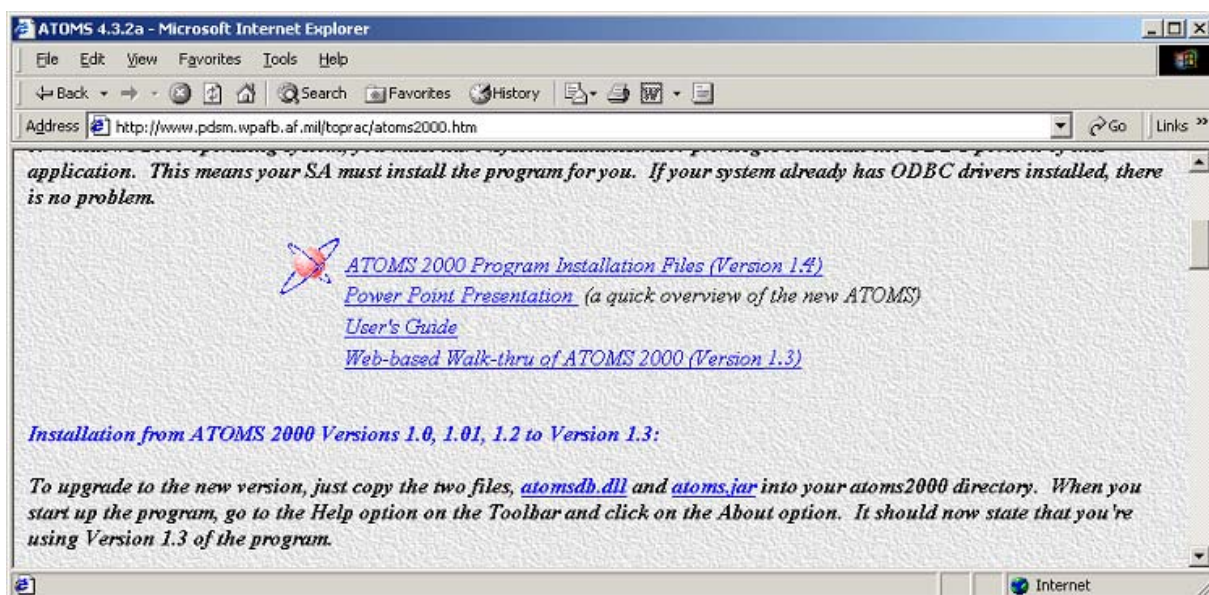

Figure 3-1. The ATOMS 2000 Website
- 2) Access the website from which ATOMS 2000 can be downloaded (see Figure 3-1). Go to the TO System Information home page at <http://www.ide.wpafb.af.mil/toprac/to-syste.htm> and click the **ATOMS Program Files** button, and then the **ATOMS 2000** button on the next screen.
- 2) Access the website from which ATOMS 2000 can be downloaded (see Figure 3-1). The URL for the website is <http://www.ide.wpafb.af.mil/toprac/atoms2000.htm>.